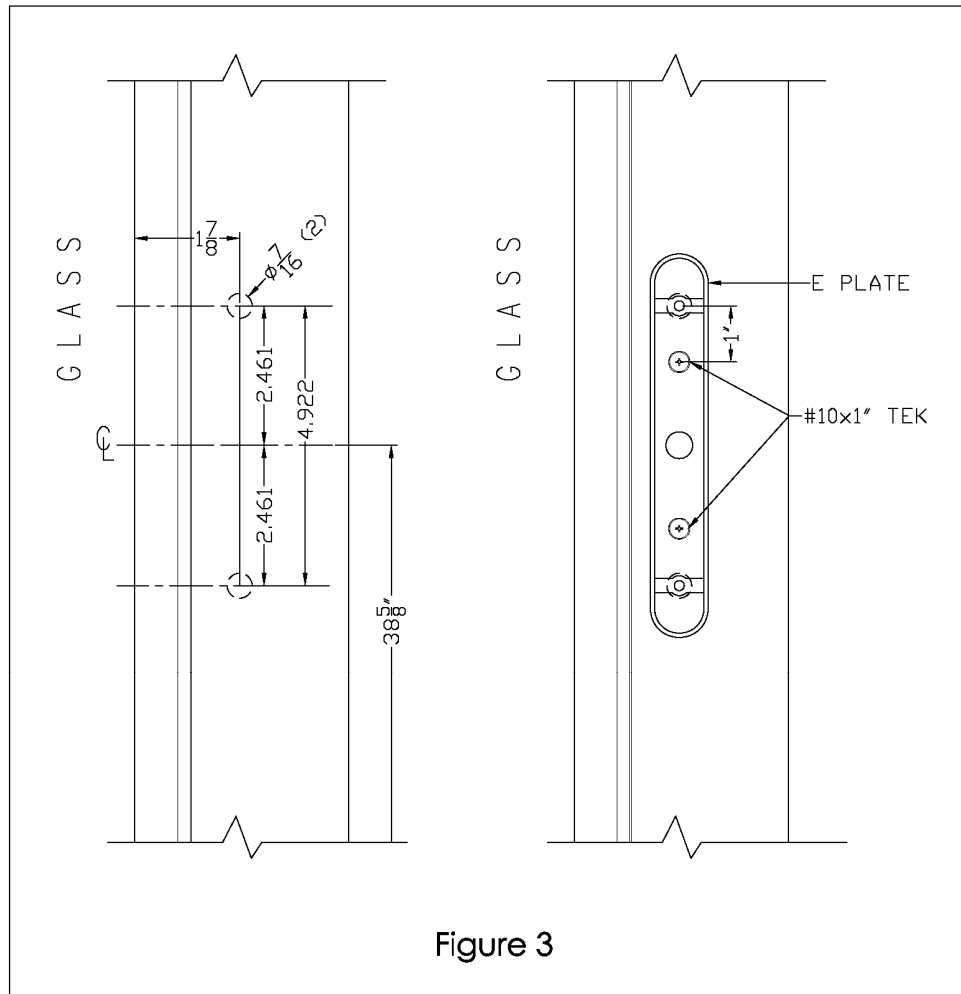

Figure 3
- Measure approximately $1\frac{7}{8}$ " from the edge of glass and mark as shown in Figure 3.
- Drill $\frac{7}{16}$ " holes as shown in Figure 3.
- Insert E plate of dummy handle into two holes as shown in Figure 3. Holes will be fabricated at the factory or fabricated according to the previous retro-fit instructions.
- Attach E plate to astragal with (2) 10 x 1" pan head self drilling screws. Locate screws approximately 1" from holes.